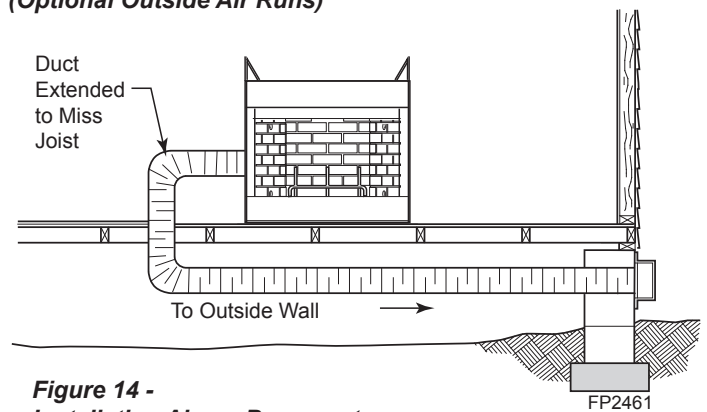

**Figure 12 -
6. Avoid extremely long runs and numerous turns in the duct leading from the fireplace to the combustion air assembly. Refer to Figures 12 through 15 for methods of installing the outside air for combustion assemblies.